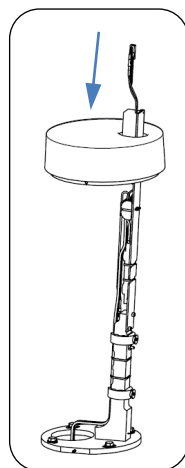

Fig. 4 – Install cover plate
11. Slide cover plate over driver plate, see Fig. 4. Secure to base plate with (2) M4 set screws.